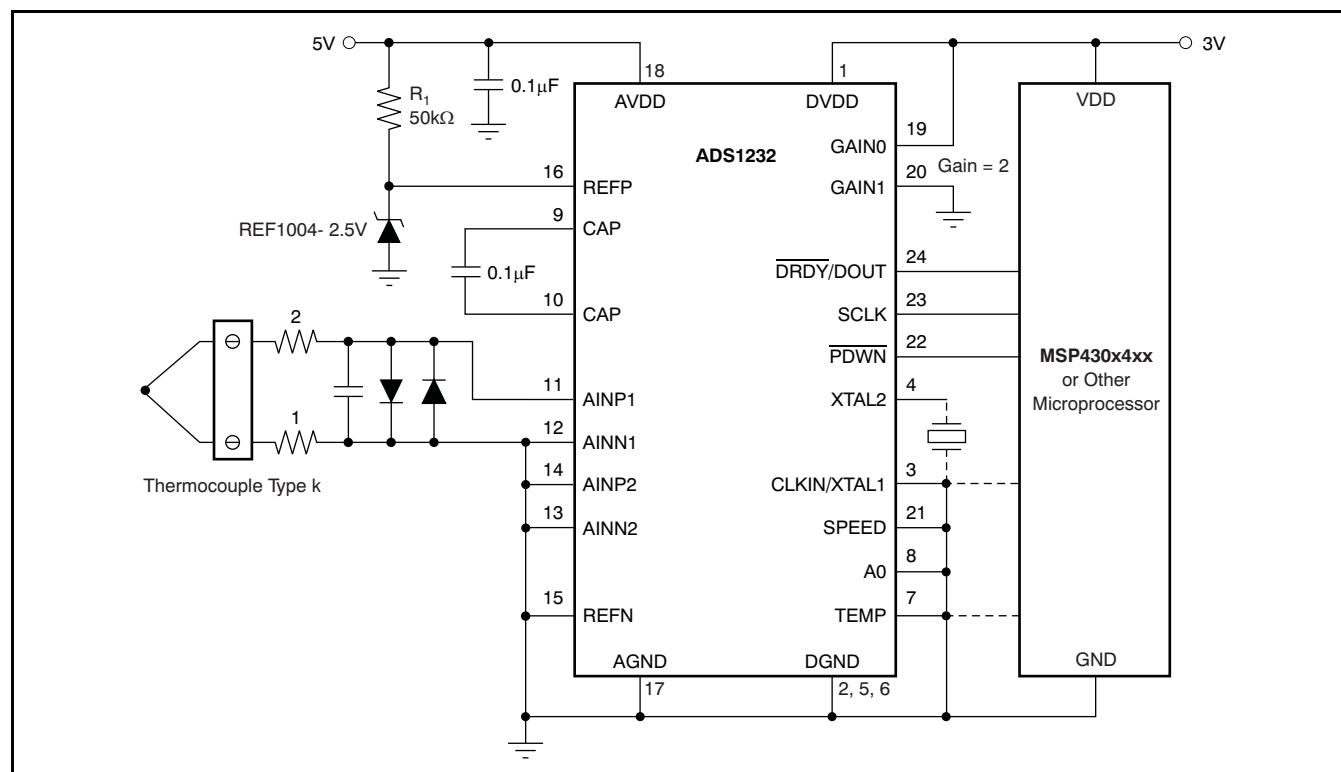

Figure 44. Grounded Junction Thermocouple Application
If either a wider temperature range application is required (up to +1350°C, for example), or a grounded junction thermocouple is used, pin 1 of the thermocouple can be grounded (see Figure 44). When the gain is set to 2, the ADS1232 input has a typical 500nV offset error and a noise level of 270nV_{RMS}, which is good for all kinds of low-voltage output sensors. Note that to calculate the actual thermocouple temperature, the ADS1232 internal temperature sensor can be accessed in order to measure the cold junction temperature along with the thermocouple reading.
- Changed Figure 44 26